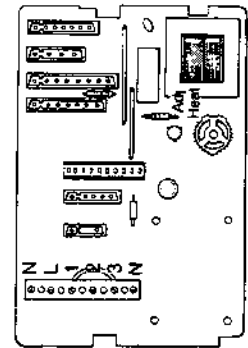

Fig. 21
The terminal block is easily visible on the left of the printed circuit board (fig. 21)
- 5.7.4** Pass the cable through the cord anchorage and connect it so that should the cable slip the anchorage the current carrying conductors become taut before the earthing conductor. (Fig. 21)